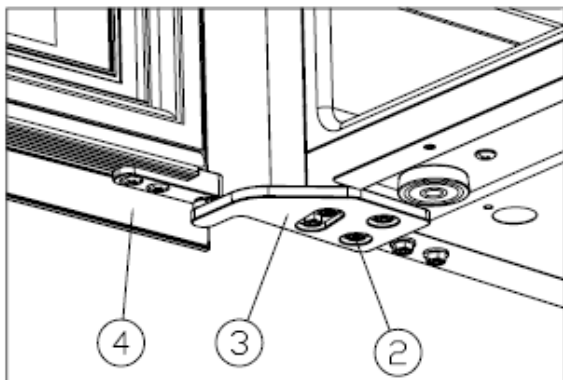

Figure 5
Install the right upper hinge (3), and screw tight the M5*16 screws (2). [Figure 5]